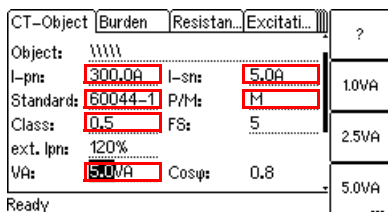

Figure 5-4: **CT-Object** card with name plate data entered
3. Enter the CT data listed in the tables below to the **CT-Object** card (see Figure 5-4).